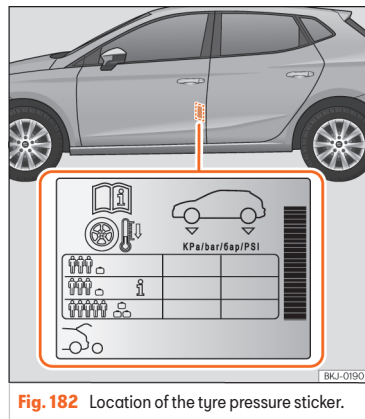

Fig. 182 Location of the tyre pressure sticker.
- Adjust tyre pressure to the load being carried by the vehicle »» **Fig. 182**.
The values of the tyre pressure are shown on the sticker label located on the read frame of the front left door »» Fig. 182.
The tyre pressure must be adjusted according to the load the vehicle is carrying. If the vehicle is going to be fully loaded, increase the tyre pressure to the maximum load value shown on the sticker label »» Fig. 182.
In the case of a minimised temporary spare wheel (125/70 R16 or 125/70 R18) inflate to a pressure of 4,2 bar as indicated on the tyre pressure label »» Fig. 182.
Depending on the vehicle, tyre pressure can be adjusted to medium load to improve driving comfort [tyre pressure **i** »» Fig. 182]. When driving with comfort tyre pressure fuel consumption may increase slightly.
- **The driver is responsible for ensuring that all of the vehicle tyres are correctly inflated to the right pressure. The recommended tyre pressure is indicated on the label »» Fig. 182.**
- **Tyre pressure should be that indicated on the label when the tyres are cold at all times »» Fig. 182.**